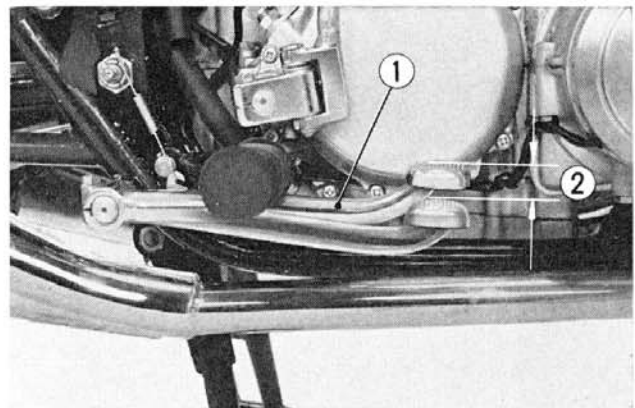
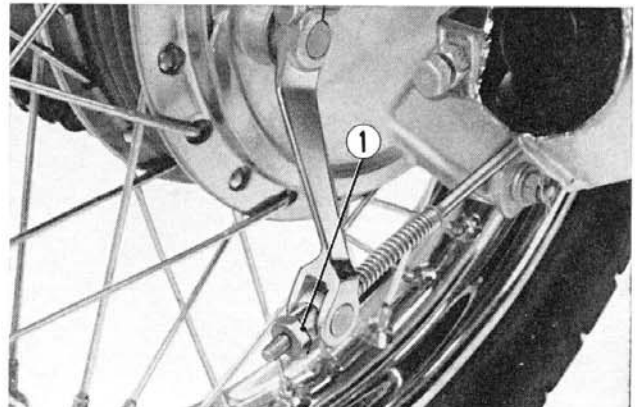

Fig. 14-20 ① Rear brake pedal
Fig. 14-21 ① Rear brake adjusting nut
6. To check the rear brake pedal free travel, raise the rear wheel off the ground by placing the motorcycle on the main stand. Rotate the wheel by hand and note the distance the pedal tip travel before the brake takes hold. Nominal free travel is approximately **1 in. (25 mm)** (Fig. 14-20). If adjustment is necessary, make the adjustment by turning the adjusting nut. Turn clockwise for less free travel, counterclockwise for greater free travel. (Fig. 14-21)